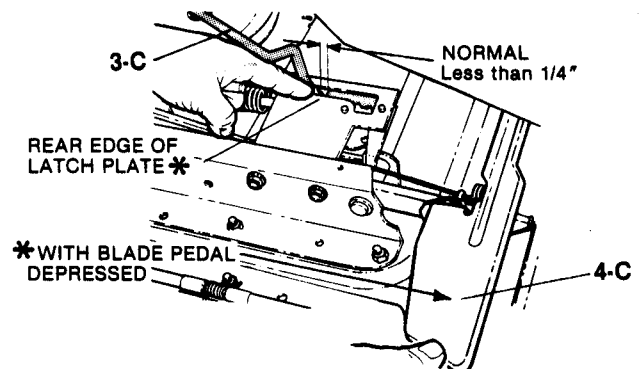

FIG. 10 - BLADE LEVER TRAVEL
As the brake band wears, the **BLADE** lever will gradually stop further rearward in the slot of the **BELT COVER**. Blade brake adjustment is required when the lever stops more than 1/4" behind the latch plate. Refer to FIG. 10. The adjusting point is shown in FIG. 11. **With the engine STOPPED**, the adjustment is made as follows:
STEP 4: Release the **BLADE** pedals to allow the **BLADE** lever to move to the **OFF** position, then depress the **BLADE** pedals again and check the clearance between forward edge of the **BLADE** lever and the rear edge of the latch plate which should be less than 1/4" (FIG. 10). Repeat the procedure in step 2 if needed to obtain correct clearance. When correct, hold the **BLADE** lever rearward and turn the jam-nut tight against the T-nut to lock in new position. Reinstall **BELT COVER**.